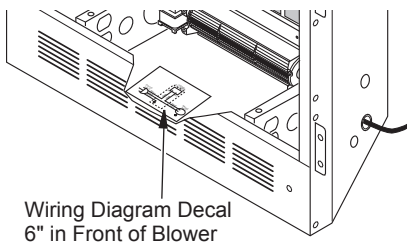

Figure 29 - Location of Wiring Diagram Decal (Model May Vary From Illustration)
10. Peel off the backing paper and stick the supplied wiring diagram decal on the firebox bottom approximately 12" in front of the blower (see Figure 29).
11. Peel off the backing paper and stick the supplied wiring diagram decal on the firebox bottom approximately 12" in front of the blower (see Figure 29, page 20).